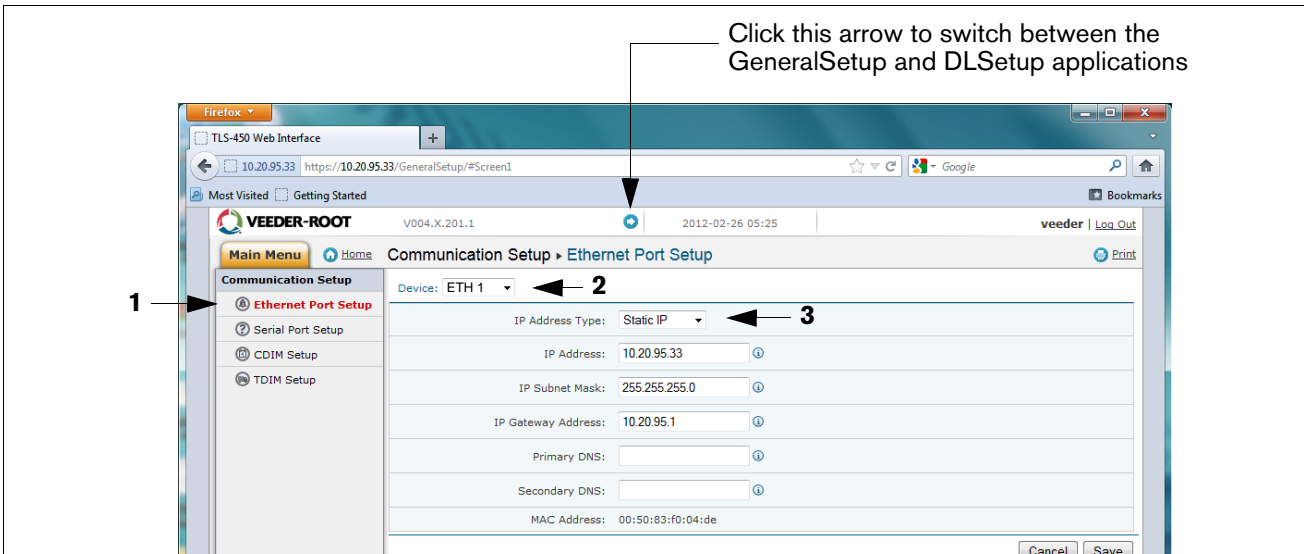

Figure 9. Ethernet Port Setup
NOTE: The DL4 simultaneously runs two applications; one programs the general communication protocols (GeneralSetup), and the other programs how the DL4 gathers its information (DLSetup). Pressing the blue arrow at the top middle of the screen will toggle you between the two programs (see Figure 9). After entering selections/changes to fields on any page, click the Save button to save your entries, or Cancel to discard them. Programming screens used to setup the DL4 are listed in Table 3.
7. On the "Communication Setup" page (see Figure 9), click on "Ethernet Port Setup" (1) and select the Device type "ETH 1" (2) from the drop-down menu. In the IP Address Type field (3):
If the site is using a static IP address, select "Static IP"; and enter the IP address assigned by your network administrator. Once this is complete, click the "Save" button to keep these settings (see example in Figure 9).